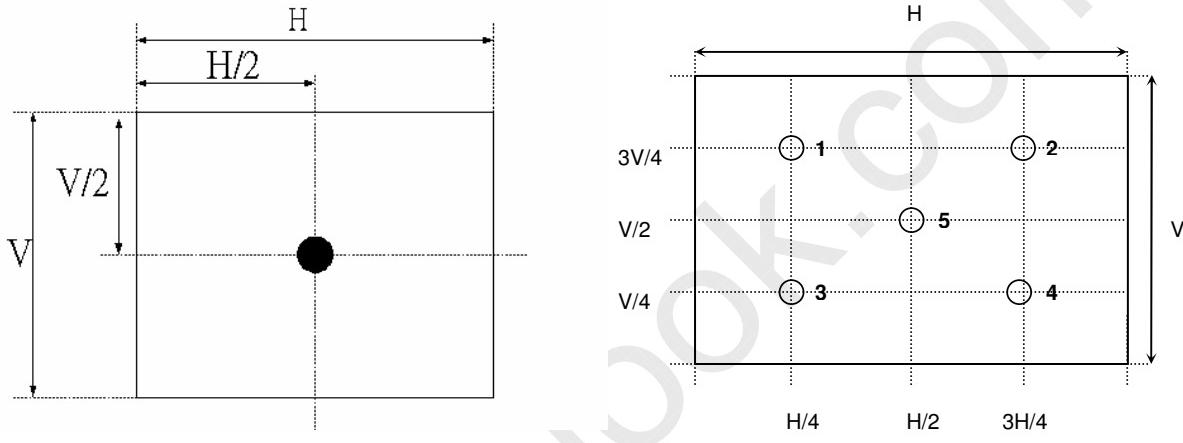

Fig.4-2 Optical measurement point
2. Surface luminance is luminance value at point 1 across the LCD surface 50cm from the surface with all pixels displaying white. From more information see Fig. 4-2. When VDDB = 24V, IDDB = 6.4A. $L_{WH} = L_{on1}$, Where L_{on1} is the luminance with all pixels displaying white at center 1 location.